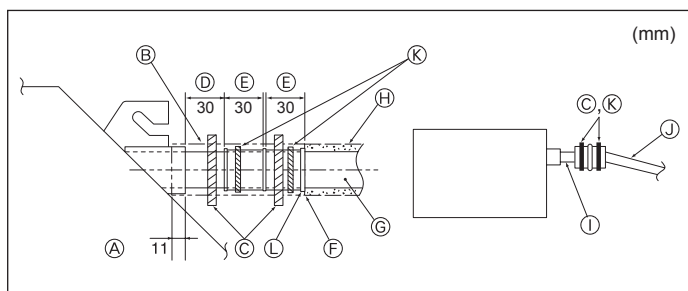

Fig. 3-5
- ① O.D. ϕ 38 PVC TUBE for grouped piping. (9 mm or more insulation)
- ② Up to 500 mm
1. Connect the drain socket (supplied with the unit) to the drain port. (Fig. 3-5) (Affix the tube using PVC adhesive then secure it with a band.)